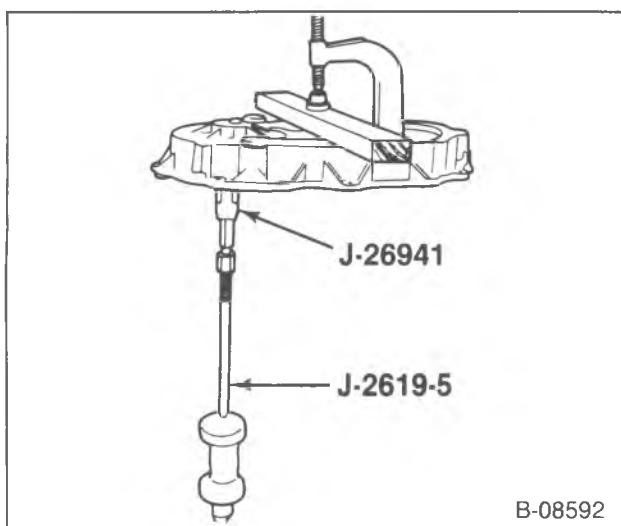

Figure 5—Front Output Shaft Rear Bearing Removal
4. Front output shaft rear bearing (76) using J 26941 and J 2619-01 (figure 5).